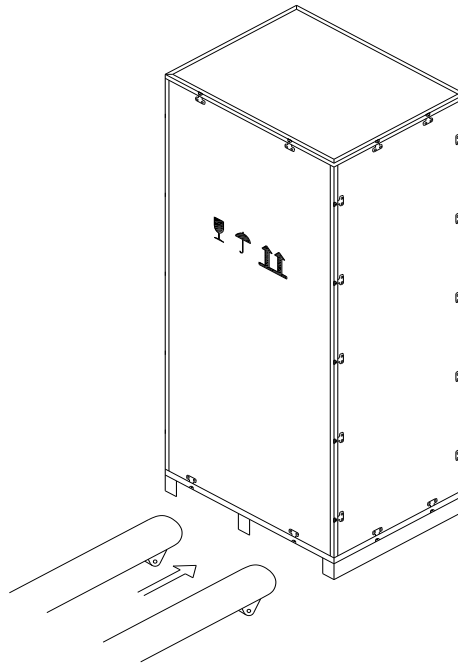

Figure 3-4 Ship the device to the designated location
Step 2 Use a forklift to transport the equipment to a designated location. The schematic diagram is shown in Figure 3-4.